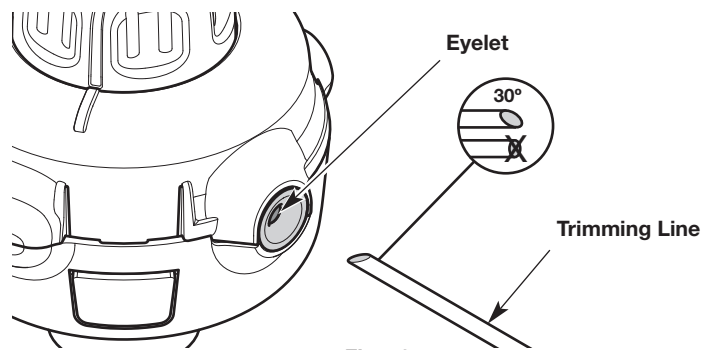

Fig. 19
- Cut two 7-foot (2.1 m) lengths of new trimming line. Cut one end of each line at a 30 degree angle (Fig. 19).
- Insert one of the lines into an eyelet on the cutting head (Fig. 19). Use the angled end and push the line in about 3 inches (7.5 cm). Repeat this process with the other line and remaining eyelet.